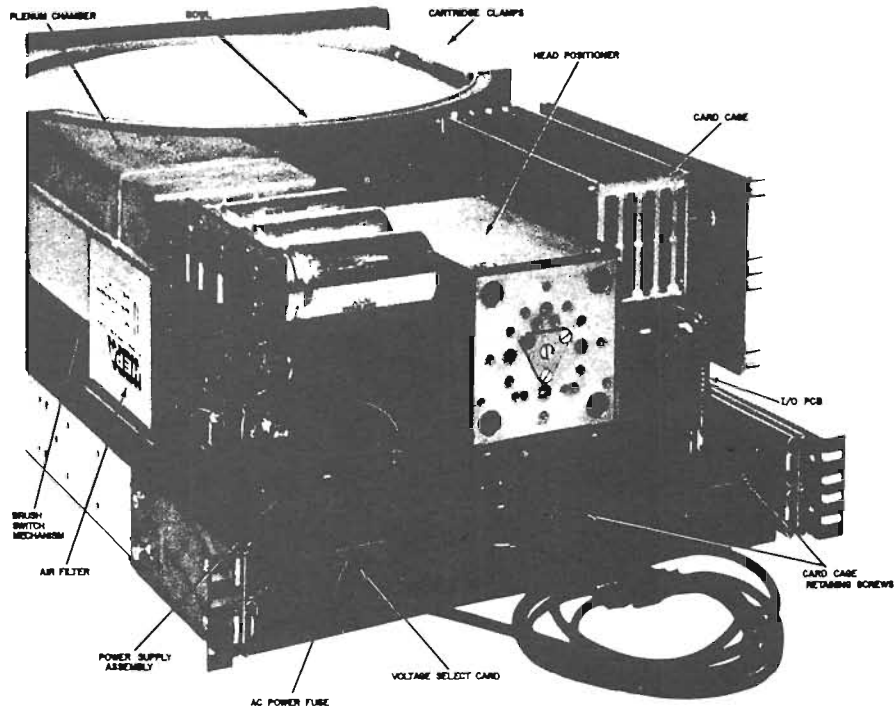

FIGURE 2 LOCATION OF ASSEMBLIES
2. Remove the two card cage retaining screws shown in Figure 2.
To replace the air filter, first remove the plenum chamber (see Figure 2), which is held in place with two screws. Exercise caution so that the gasket around the sealing edges of the plenum chamber is not damaged. The air filter and pad can now be lifted straight up. Install a new air filter and pad, observing the air-flow direction printed on the filter label (arrow up), and replace the plenum chamber. Ensure that both gaskets are well-seated on their sealing edges.